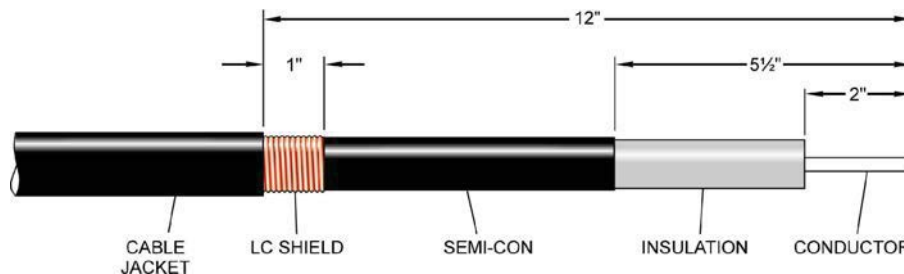

FIGURE 4
STEP 4: REMOVE THE AMOUNT OF CABLE JACKET SHOWN IN **FIGURE 4**.
STEP 5: REMOVE THE LC SHIELD, EXCEPT FOR THE LENGTH SHOWN IN **FIGURE 4** WHICH WILL EXTEND BEYOND THE END OF THE CABLE JACKET.
THE CUT BACK DIMENSIONS IN FIGURE 4 WILL LEAVE APPROXIMATELY 3" - 4" MORE EXPOSED SEMI-CONDUCTIVE INSULATION SHIELD THAN THE MANUFACTURER'S RECOMMENDED CUTBACKS. THIS IS TO ALLOW FOR THE CONVENIENT APPLICATION OF A FAULTED CIRCUIT INDICATOR (FCI) IN THE FUTURE. IT DOES NOT IMPACT THE PERFORMANCE OF THE ELBOW ITSELF.
STEP 6: **USE AN APPROPRIATE TOOL** AND SCORE THE SEMI-CONDUCTIVE INSULATION SHIELD SO THE LENGTH OF THE SHIELD SHOWN IN **FIGURE 4** CAN BE REMOVED; HOWEVER, **DO NOT REMOVE THE SHIELD AT THIS TIME.**
STEP 7: REMOVE THE AMOUNT OF INSULATION SHOWN IN **FIGURE 4**.
STEP 9: VERIFY THAT ALL CUTBACKS HAVE BEEN MADE TO THE PROPER DIMENSION. CORRECT THE INSULATION AND SEMI-CONDUCTIVE SHIELD CUTBACKS IF THEY ARE NOT WITHIN 1/8" OF THE DIMENSIONS PROVIDED IN **FIGURE 4**.